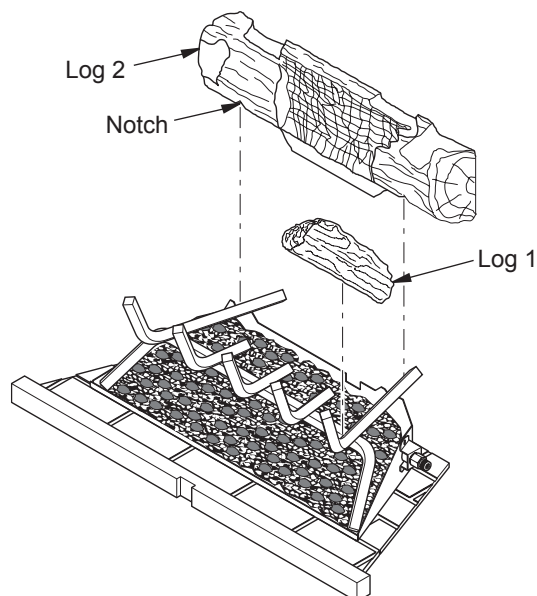

Figure 25 - Installing Logs 1 and 2
1. Place small front right log (log 1) on right front of grate as shown in Figure 25.
2. Place large back log (log 2) onto grate making sure notches rest over grate as shown in Figure 25.